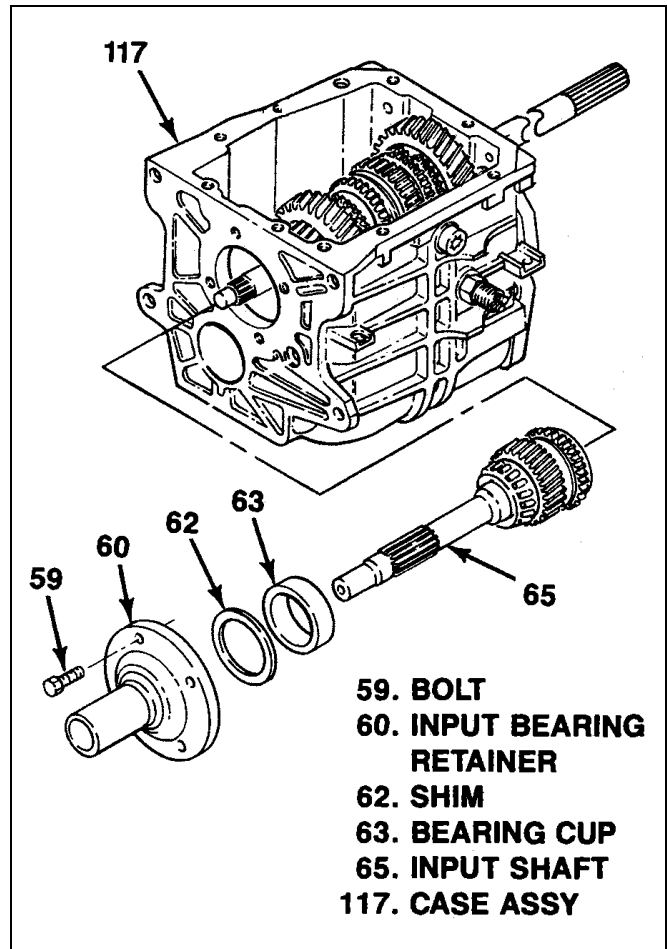
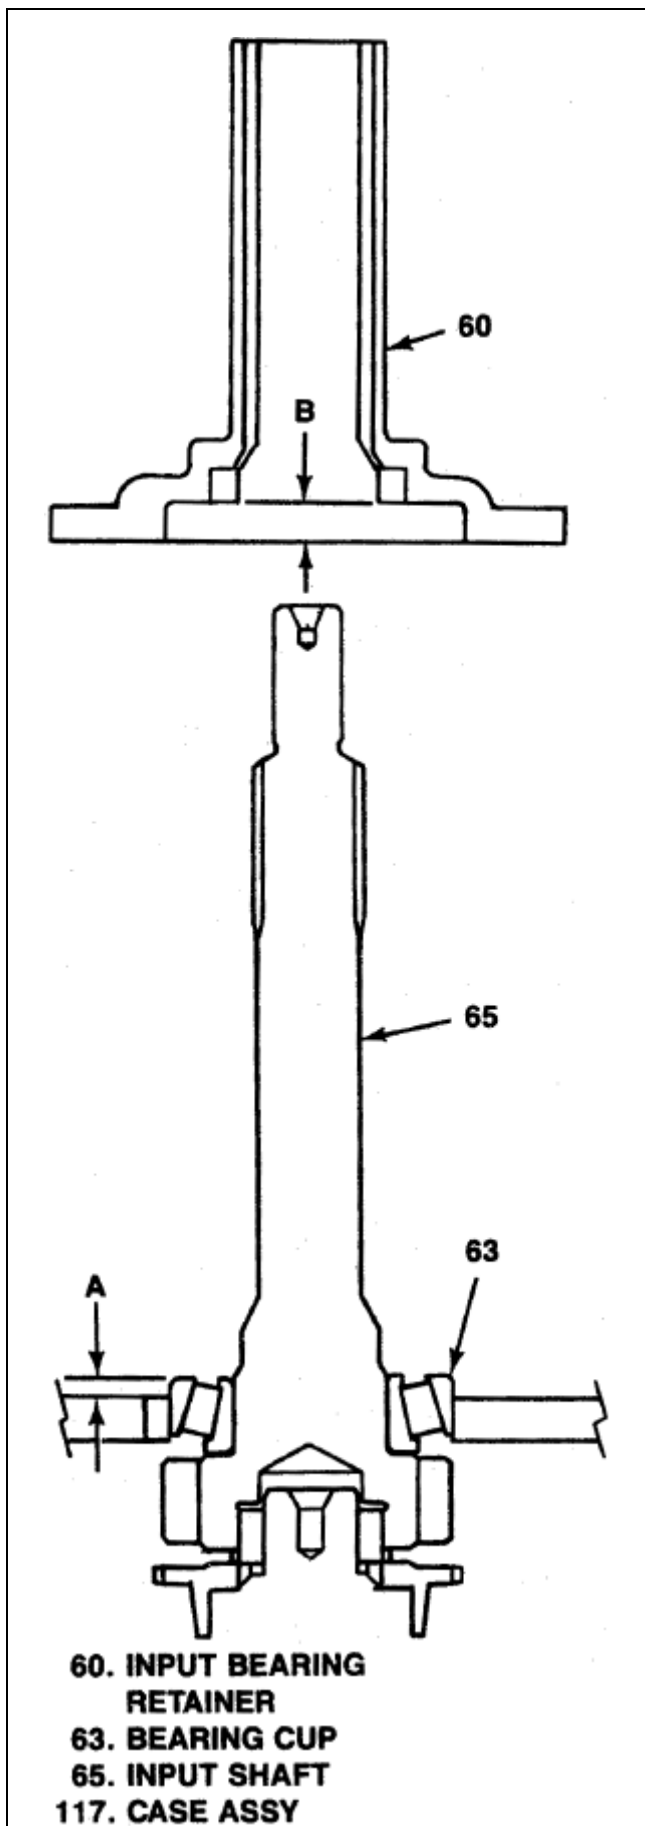

Figure 6-21. T5 WC Bearing Preload Adjustment
Figure 6-22. T5 WC Bearing Preload Measurements
6-19. ADJUSTMENT OF T5 WC INPUT/OUTPUT SHAFT BEARING PRELOAD. With both input bearing retainer and extension or adapter installed as described in preceding paragraphs, adjust input/output shaft bearing preload as follows (see figure 6-21 and 6-22):
- b. Remove bolts (59, figure 6-21) attaching input bearing retainer k(60) and remove bearing retainer.
- c. Using hand pressure, press down firmly on input shaft (65) and bearing cup (63) to ensure that power train parts in transmission are fully seated.
- d. Using suitable depth micrometer measure and record the following (see figure 6-22):
1. Dimension A, distance from top of bearing cup (63) to mounting face on transmission case (117) for input bearing retainer (60).
2. Dimension B, distance from mounting face on input bearing retainer (60) to bearing cup contact surface.